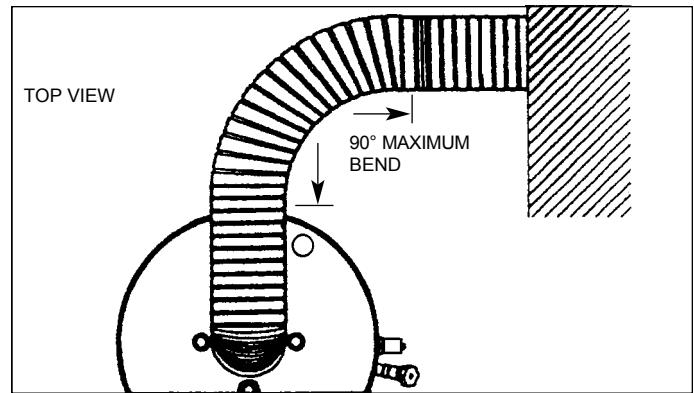
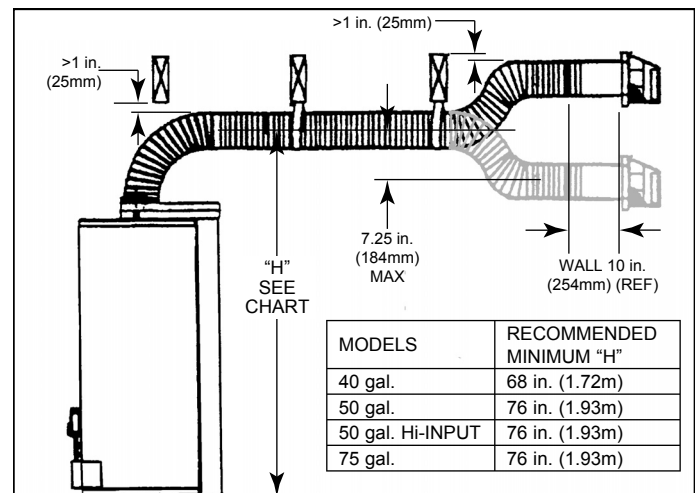

FIGURE 26
FIGURE 27
- B. **Do not combine condition 1 (Figure 26) with condition 2 (Figure 27) in the same installation.**
- C. The maximum allowable drop from vent center-line to vent termination center-line (Figure 27) is 7.25 in. (184mm).